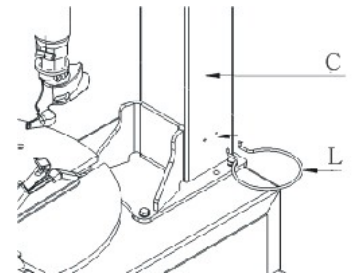

Fig. 7
- Take the holder (L, fig.7) from the accessory box.
- Now place the holder in the holes of the column (C, Fig.7).